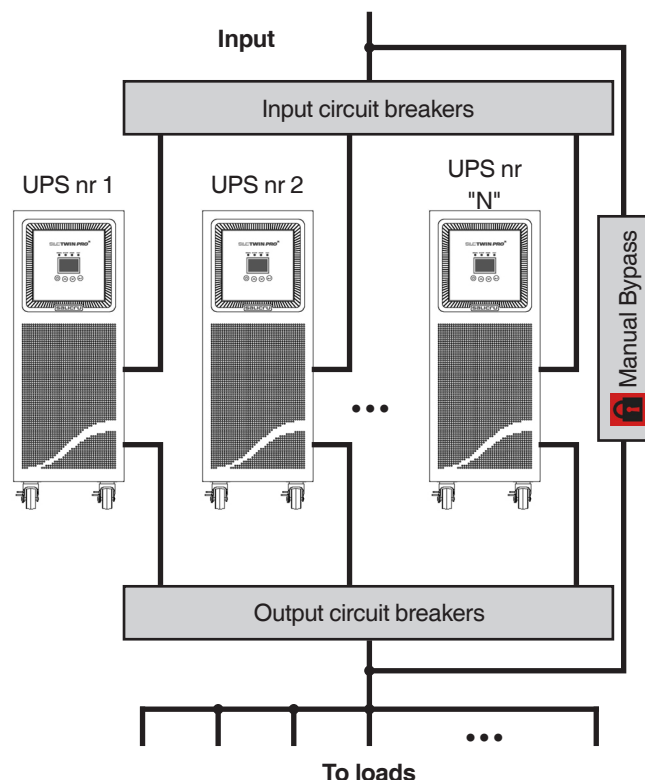

Fig. 12. Parallel installation of TWINPRO and TWIN/3PRO UPSs up to 10 kVA, with protection and manual bypass panel.
- The installation of the parallel systems, has to be provided by a switchgear panel with individual protections for input, output, static bypass (this last one for **TWIN/3 PRO** > 10 kVA models only), also a manual bypass with mechanical lock, see figures 12 and 13.
- Figures 12 and 13 shows a manual bypass panel for a parallel system, in a conceptual way, valid for a single equipment by adapting the quantity of switches.